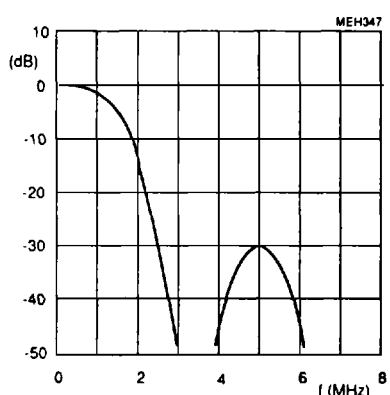

Fig.5 Overall transfer characteristics 4:1:1 input data.
3. Interpolation at 13.5 MHz for 4:2:2 input data into 4:4:4 data before modulating baseband signals onto the colour subcarrier. Figures 5, 6 and 7 show the overall transfer characteristics of chrominance in "standard bandwidth condition" (SCBW = 1). Figures 8 and 9 show the overall transfer characteristics of chrominance in "enhanced bandwidth condition" (SCBW = 0), which is not possible for 4:1:1 input data. The transfer curves are slightly different at 12.27 and 14.75 MHz.